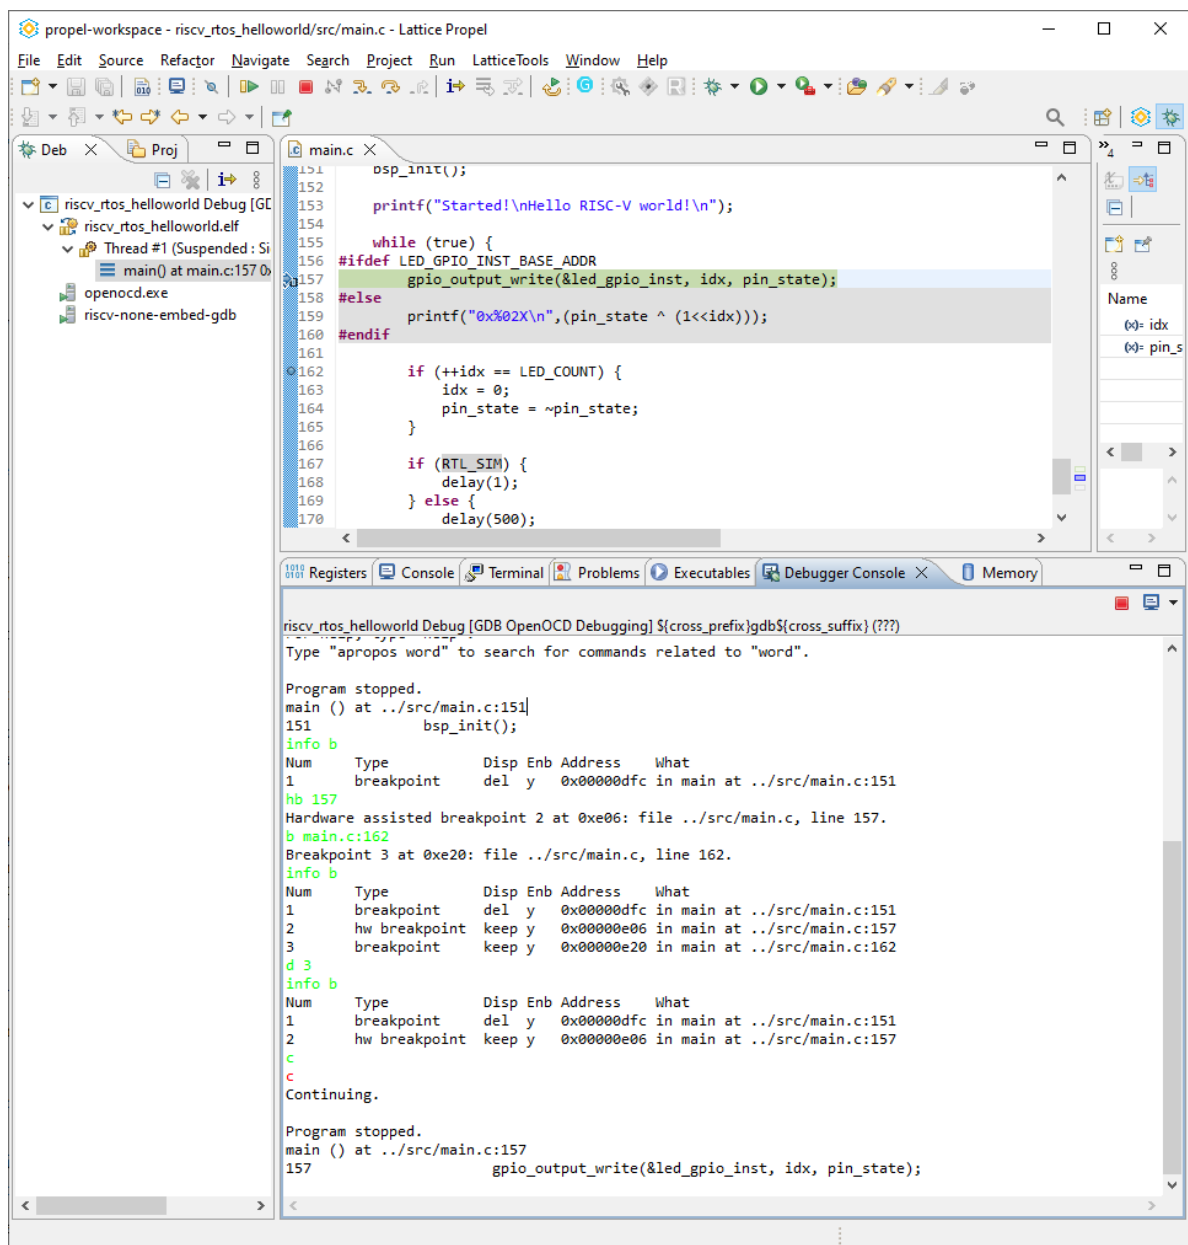

Figure H.1. GDB Console 1
1. Create a C/C++ project, build it, and execute on-chip debugging. This example uses a HelloWorld project (Figure H.1).
3. Enter the following commands in sequence in the Debugger Console shown in Figure H.1.